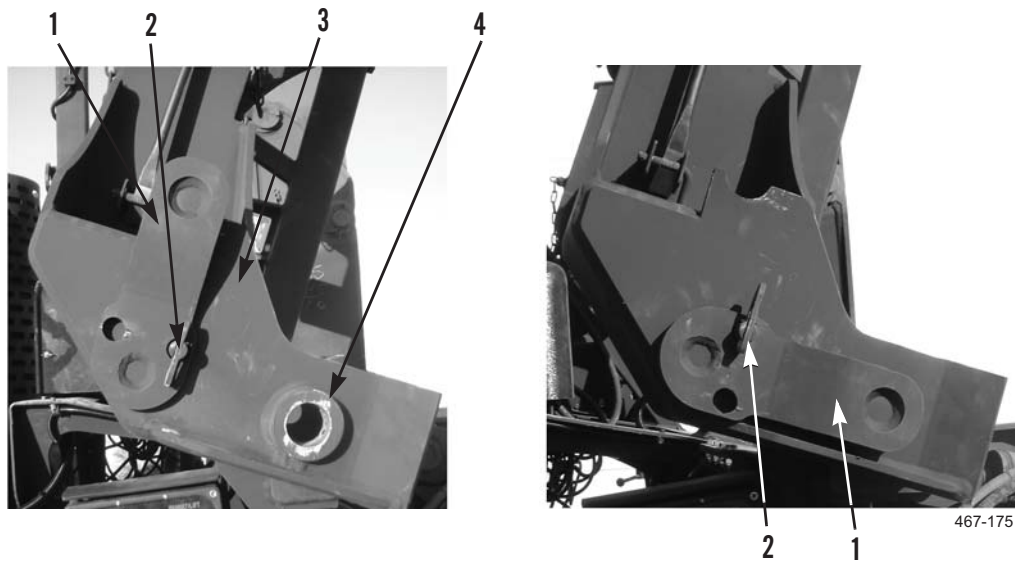

Figure 41. Engage Locking Plate.
6. Release anti-loose fastener (Figure 41, Item 2) on lower locking plate (Figure 41, Item 1).
7. Pull out lower locking plate (Figure 41, Item 1) from cradle on lift frame (Figure 41, Item 3) and rotate locking plate to horizontal position.
8. Align locking plate with securing tube (Figure 41, Item 4) and push locking plate toward lift frame (Figure 41, Item 3).
9. Lock anti-loose fastener (Figure 41, Item 2).